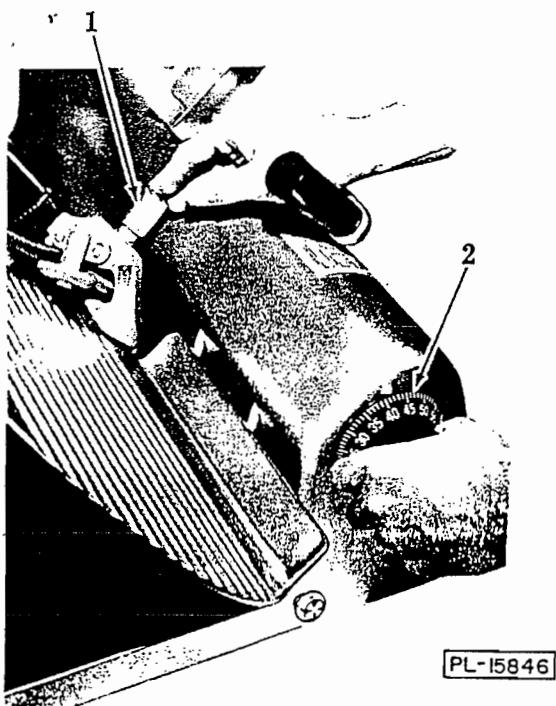

Fig. 5
- g. Turn the slice adjusting knob (2, Fig. 5) slowly to the right. This will bring the grinding wheel into contact with the beveled side of the knife.
- j. As soon as burr appears depress truing wheel by pressing on plunger (1, Fig. 5) with right